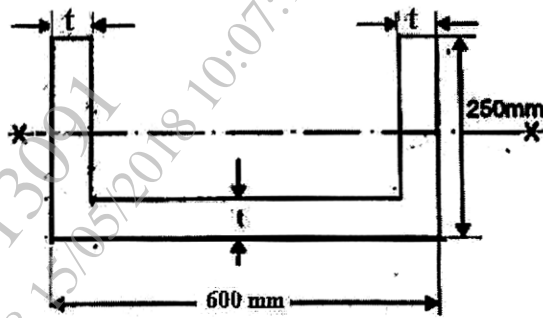

Fig. No. 04
- Que 03 a) A beam having a cross section in the form of channel as shown in *Fig. No. 04* is subjected to bending moment acting about X-X axis. Calculate the thickness 't' of the channel in order that the bending stresses at the Top and Bottom layer of the beam C/S will be in the ratio 7 : 3.